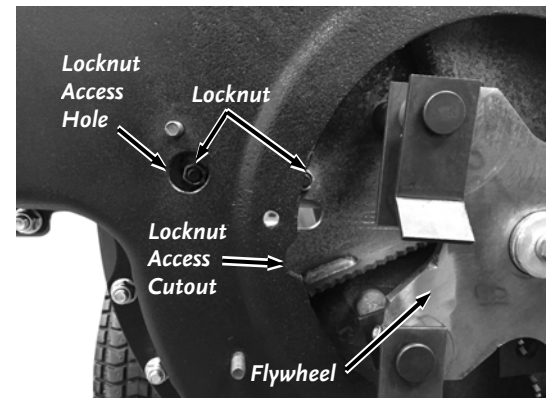

Figure 26
3. Rotate the Flywheel until the Locknut is visible through the Locknut Access Hole. (**Figure 26**).
5. Insert a 3/16" Allen wrench into the head of the screw and a 1/2" Deep Socket on the Locknut through the Locknut Access Hole (**Figure 26**) and remove the Locknut and Screw.